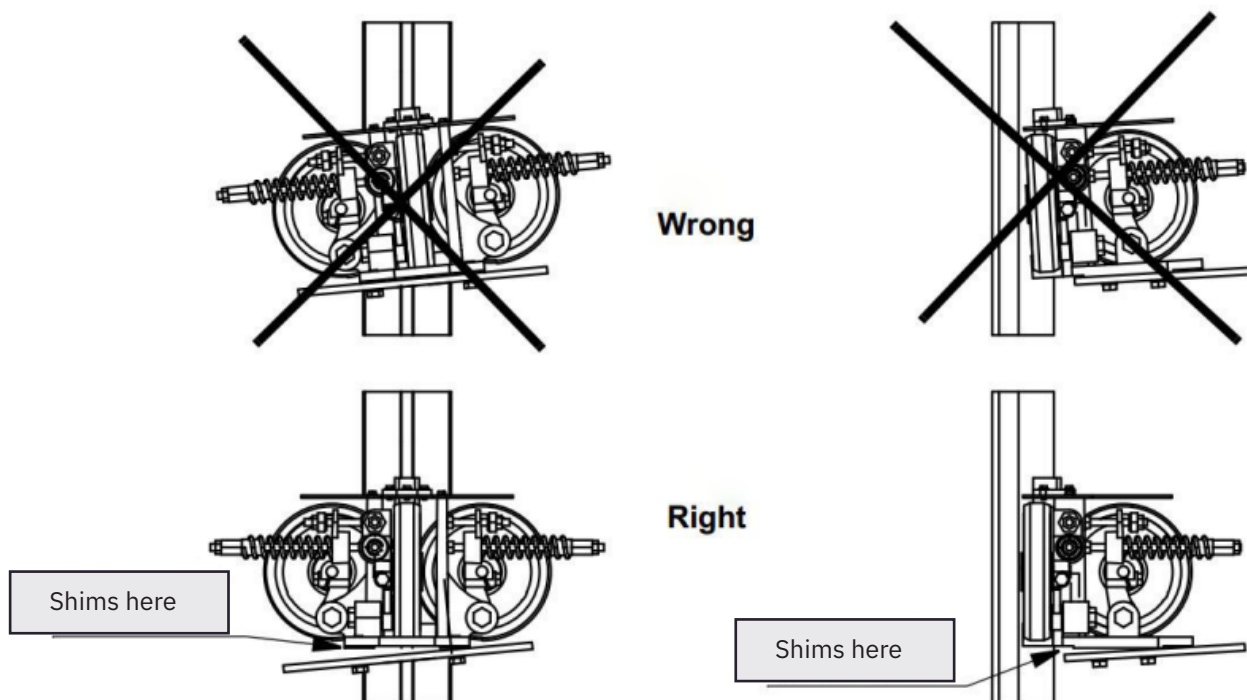

Fig. 3. Alignment of the roller guides
- If these requirements are not achieved the roller guides are most probably not straight and must be aligned as described in Fig. 3. The required shimming accuracy is 0.5mm
- Tight the adjusting bushing right balance value according to information given in layout drawing and label on RG cover (see Fig. 3).
- To compensate the unbalance, some springs must be readjusted on building site related to the unbalancing of the cabin (see Fig. 3).
- Tight the adjusting nut right balance value according to information given in layout drawing and label on cover (see Fig. 3).